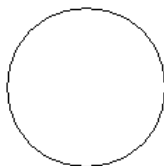

**Figure 34-3:** The circle was drawn using the `circle3` AutoLISP routine.
9. At the Please click a point: prompt, pick any point on-screen. You see a 3-unit radius circle with its center at the point that you picked, as shown in Figure 34-3.